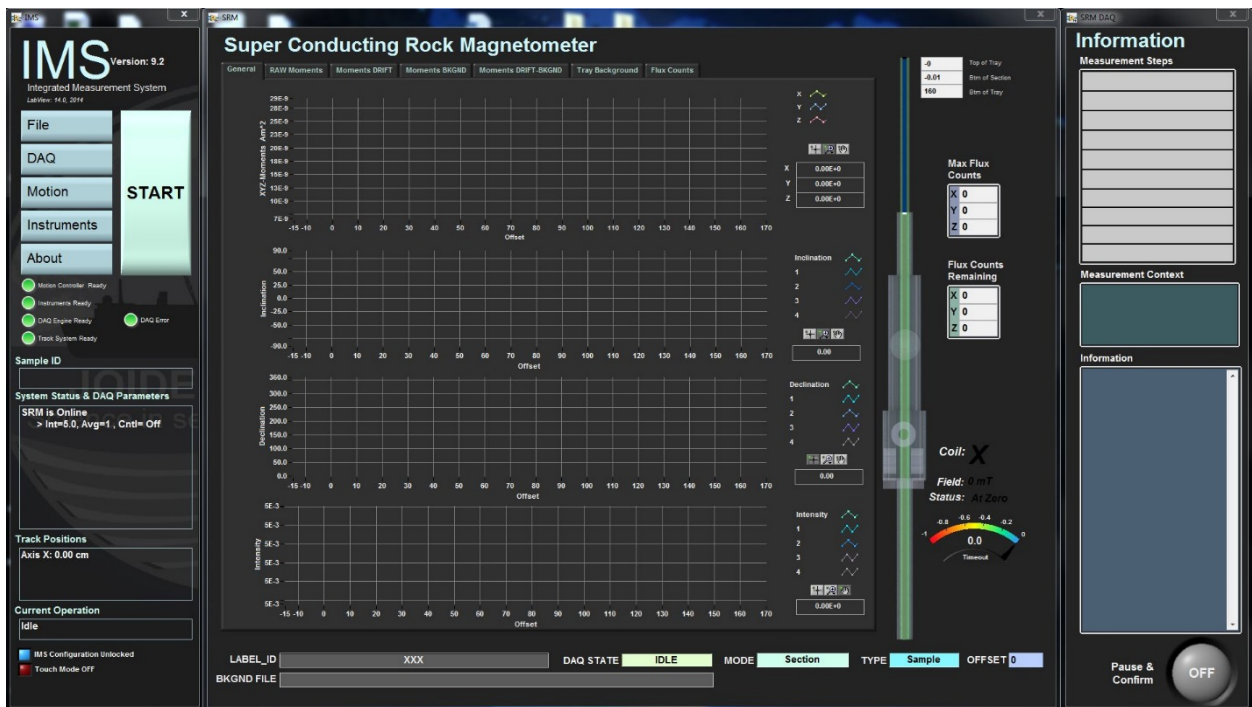
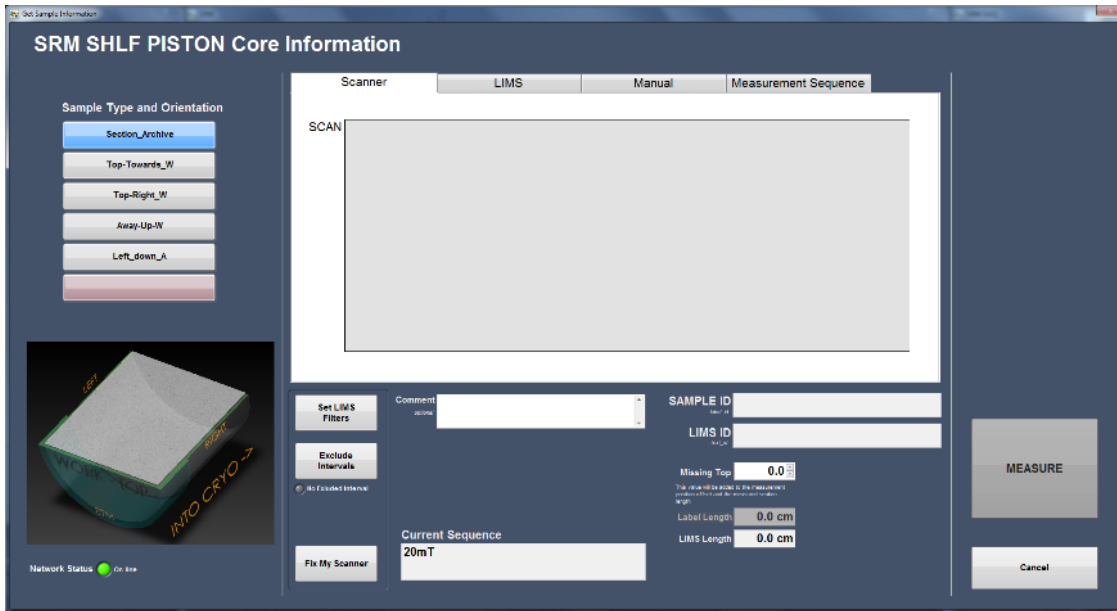

Figure 2. IMS-SRM main screen.
Figure 9. Sample Information Window.
Once the program launches, the user will see the main IMS-SRM window (Figure 2). The leftmost panel contains the controls for changing the setup and for starting the SRM measurements. The center panel allows the user to view the data as it is collected and monitor the measurement process. The right panel display indicates which measurement sequence is selected and which step is being executed, as well as other pertinent information.
4. Once user has created the finalized sequence, select **Ok...Save** and the user will be prompted to name the sequence and then returned to the main screen (Figure 2).
1. To start a measurement select the **START** button on the left hand side of the main SRM-IMS screen (Figure 2). The Sample Information window will open (Figure 9).
7. Click **Measure** to begin measurement. A window similar to Figure 2 will open and display the measured data in real time.